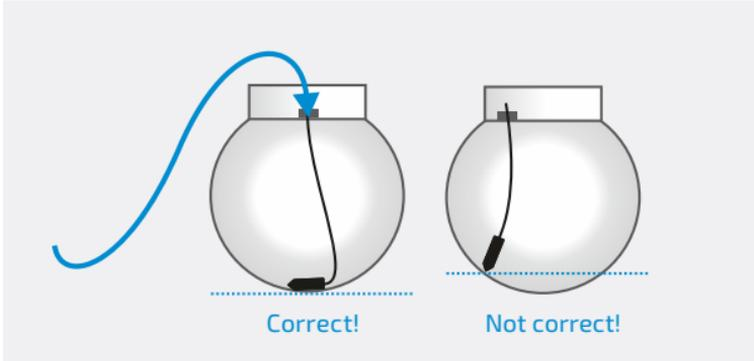

Fig. 5 | Insert the pressure probe into the tank
**Installing the pressure probe:** Insert the pressure probe with the cable until it contacts the bottom (Fig. 5). Tighten the cable gland so that the cable cannot slip.